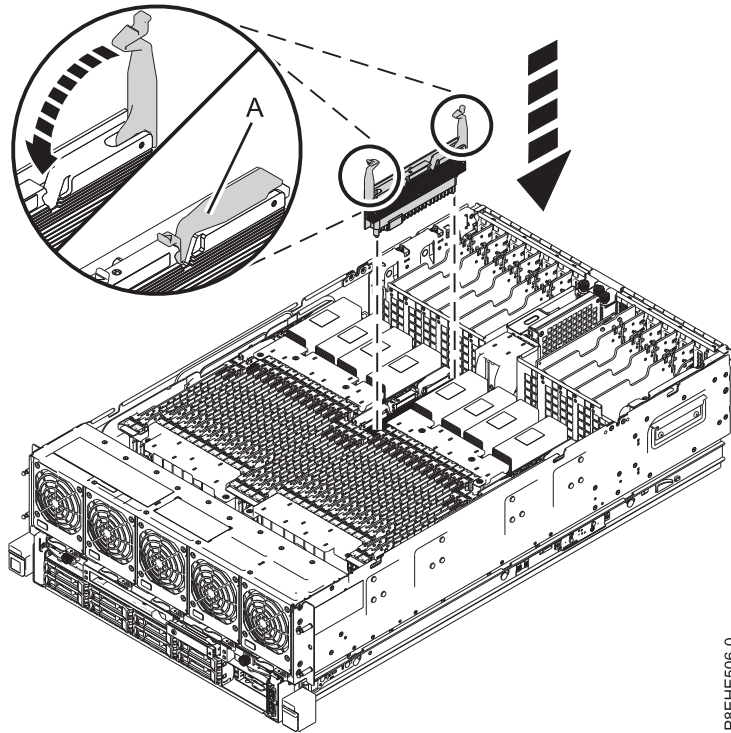

Figure 13. Replacing a processor voltage regulator module in the system
- a. Ensure that the connector tabs (A) are pushed out to the unlocked position, as shown in Figure 13 on page 23.
- d. Secure the processor voltage regulator module by pushing in the connector tabs (A) until it is secured to the system's chassis, as shown in Figure 13 on page 23.